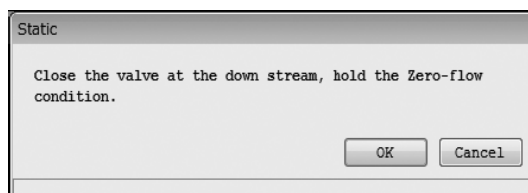

Fig.117
- ① Click the "Diag/Service (T)" menu, select "Installation" from the "Test/Status" drop-down list, and then click "Static" under that.
- ② The following window will be displayed (Fig. 117). This will check the static device installation state. Click "OK" after completely stopping the fluid.
Click the "Cancel" button to return to the window shown in Fig. 117.